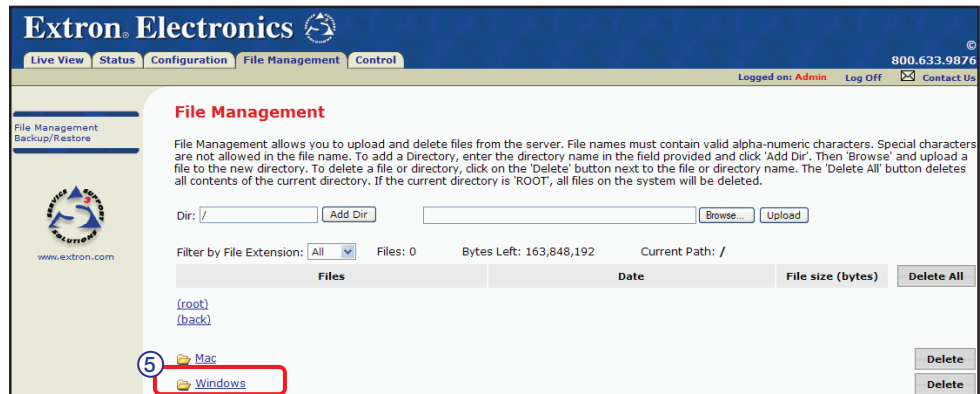

Figure 52. File Management Page – Media Player Installation
5. From the sw_distribution directory, click the **Windows** link. This opens the Windows directory (see figure 52).